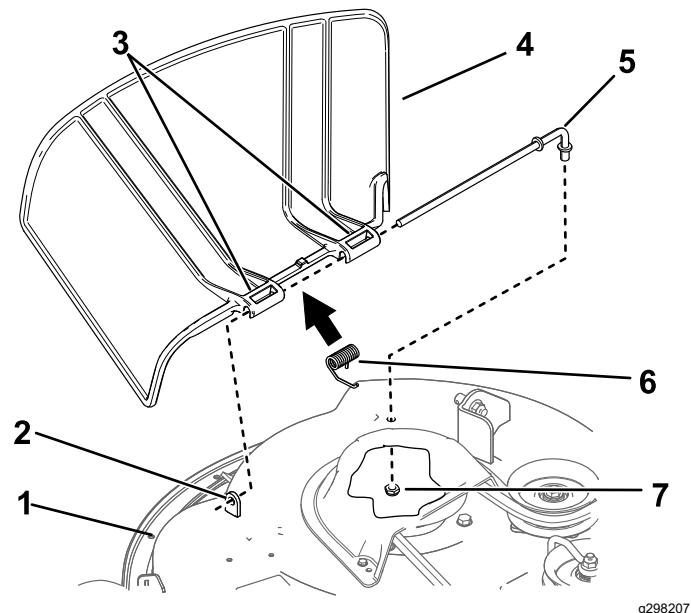

Figure 66
1. Remove the nut (3/8 inch) from the rod under the mower (Figure 66).
2. Slide the rod out of the short stand-off, spring, and grass deflector (Figure 66).
4. Install the new grass deflector (Figure 66).
7. Slide the rod through the second grass-deflector pivot (Figure 66).
9. Secure the rear end of the rod into the mower with a nut (3/8 inch) as shown in Figure 66.